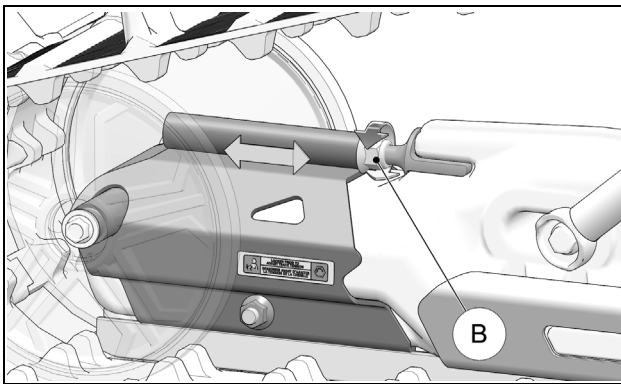

Figure 20
To adjust track tension, turn tension adjustment nut (B) clockwise or counterclockwise to obtain the recommended track tension. See Figure 20.